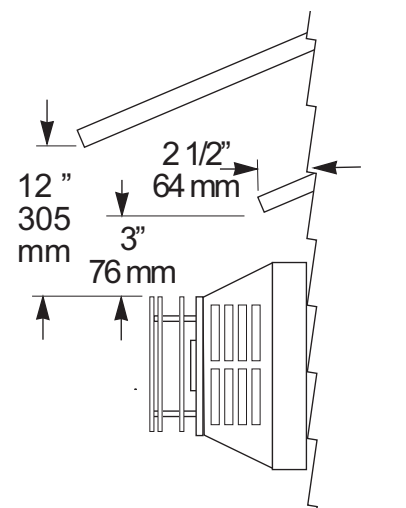

Figure 24. Termination Clearance to overhangs.
- The horizontal termination cap must maintain a 3" clearance to any overhead combustible projections 2 1/2" or less. It must also maintain 12" clearance from projections exceeding 2 1/2". See fig. 24.